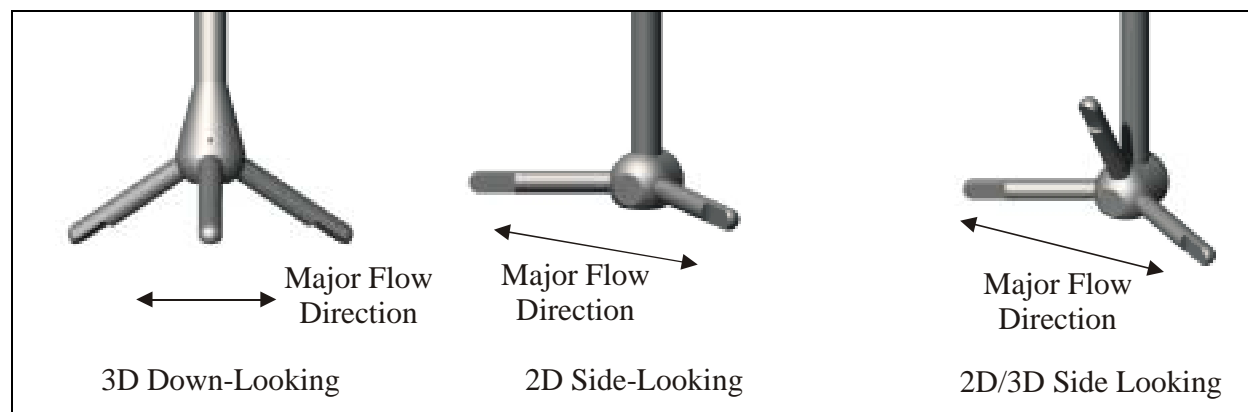

Figure 17 – Preferred Flow Direction to Avoid Flow Interference
- The Argonaut-ADV should be oriented so that the axis of the transmit transducer is roughly perpendicular to the expected direction of flow (Figure 17).